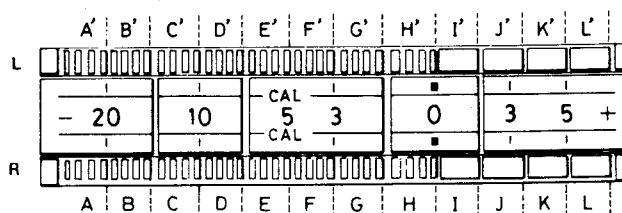

Fig. 12
Figure 12 shows input voltages (V_{IN}) of IC1, IC2 necessary for illuminating the indicators of FL meter.
- Put out level meter's 0 dB segment (the segment of Hand H' part in Fig. 12) once by rotating SVR3 and SVR4, and thereafter, adjust them to a point where the above-mentioned segment begins to light up.
- With an input obtained in step a above reduced down to -18 dB — which is equal to VTVM reading of 67 mV, put out level meter's -20 dB segment (the segment of A and A' part in Fig. 12) once by rotating SVR1 and SVR2, and thereafter, adjust them to a point where the -20 dB segment begins to light up. Besides, make sure that the above segment is sure to go out with the input down to -19 dB (60 mV in VTVM reading) and that the segment comes on again when the input reaches within -18 ± 0.5 dB (67 ± 3 mV in VTVM reading).